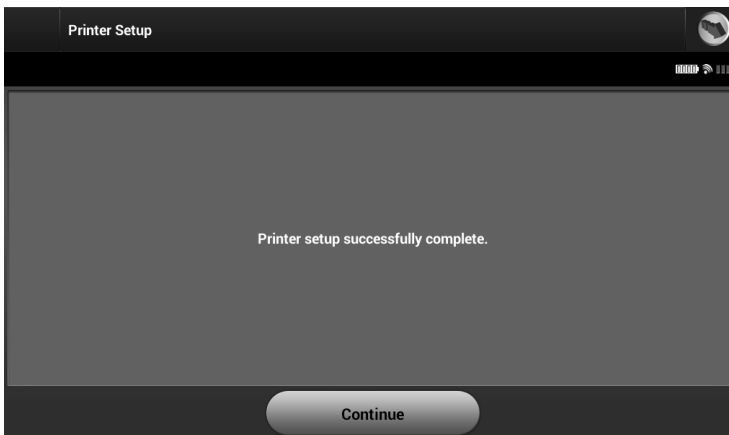

Figure 11: *Printer Setup confirmation screen*
6. Select the Save button to save the changes and return to the Programmer Settings screen, or select Cancel to return to the Programmer Settings screen without saving the changes. A confirmation screen will appear when the printer setup is completed (Figure 11).